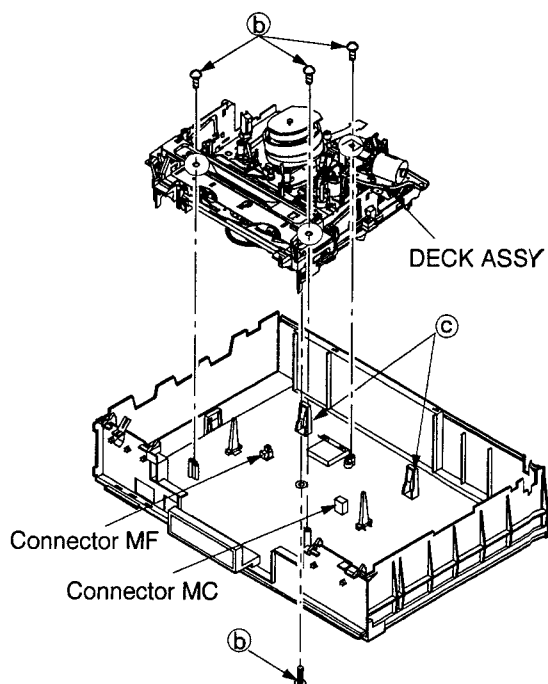

Fig. 6
5. Remove the four screws (b) shown in Fig. 6.
7. Release the two catches (c) shown in Fig.6 and raise the DECK ASSY to remove it.